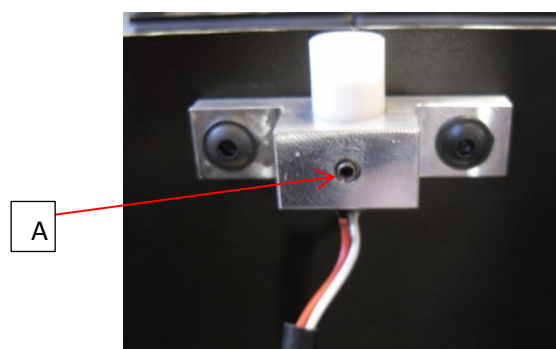

Fig 2
4. Unscrew the headless screw **A)**, in order to free the laser head shown in fig.2